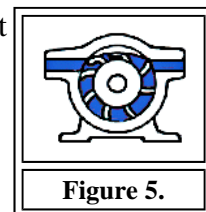

Figure 5.
**Flexible Member.** This principle is similar to the Vane principle except the vanes flex rather than slide. The fluid pumping and sealing action depends on the elasticity of the flexible members. The flexible members may be a tube, a vane, or a liner. Figure 5 shows a flexible vane pump.